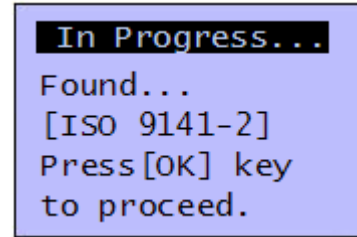

Figure 12
9. Once the scan tool has established communication with the engine ECU, it will display the protocol type. (Figure 12)